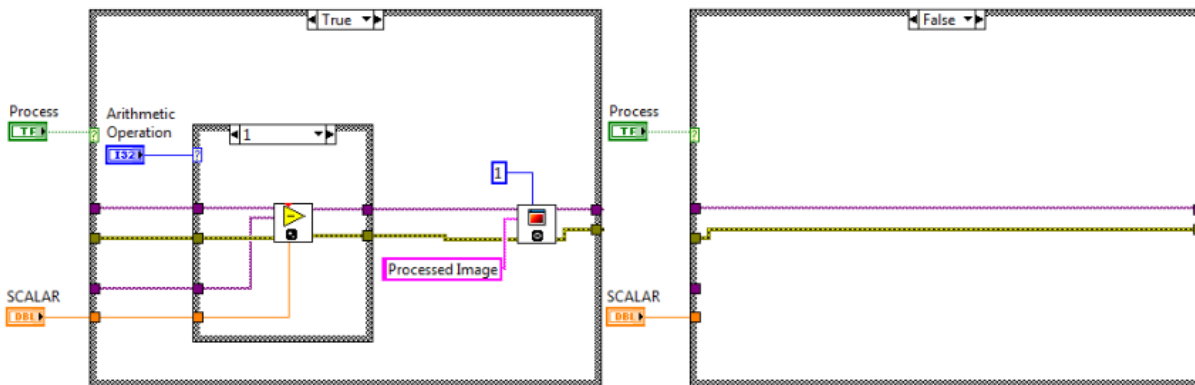

Figure 23: Left: “True” Case Block Diagram. Right: “False” Case Block Diagram
9. Complete the structure as shown in Figure 23.